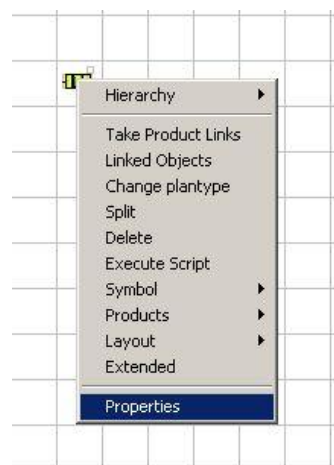

Figure 92: Opening Properties Dialogs using the Context Menu
- 3) Press the right mouse button and click **Properties** (Please refer to the Figure 92. If you want to open the extended menu, click **Extended**).